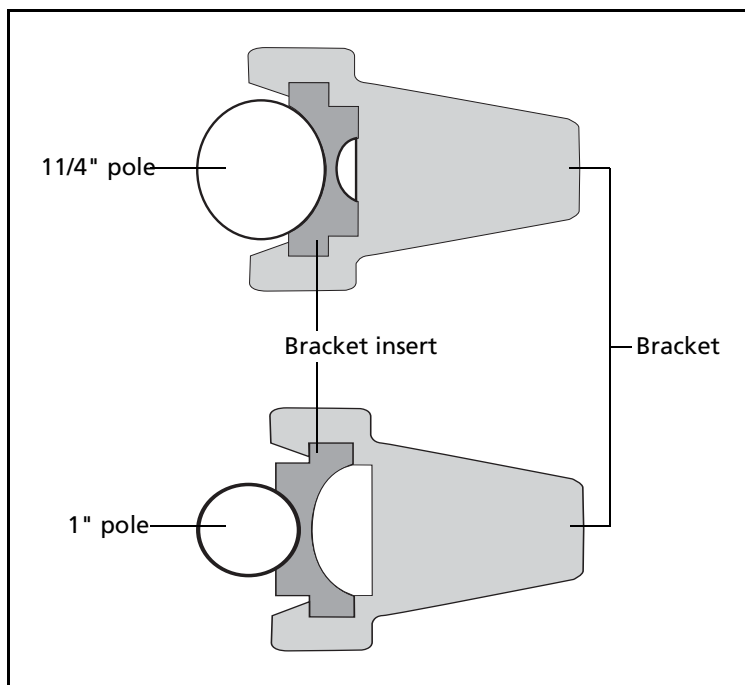

Figure 3.8 Receiver bracket insert
*Note – If you are using a 1" diameter pole, flip the black insert around inside the bracket, as shown in Figure 3.8.*